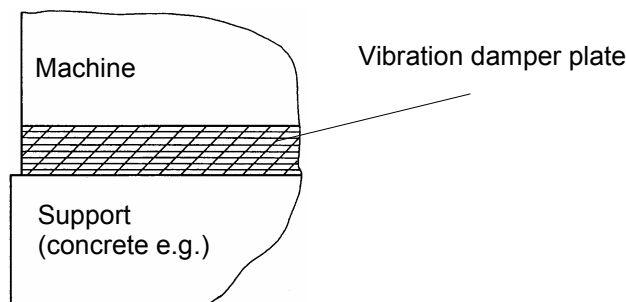

Fig. 4.3
- be placed as an antinoise and antivibration measure, on the supplied vibration-damping pads, see Fig. 4.3.